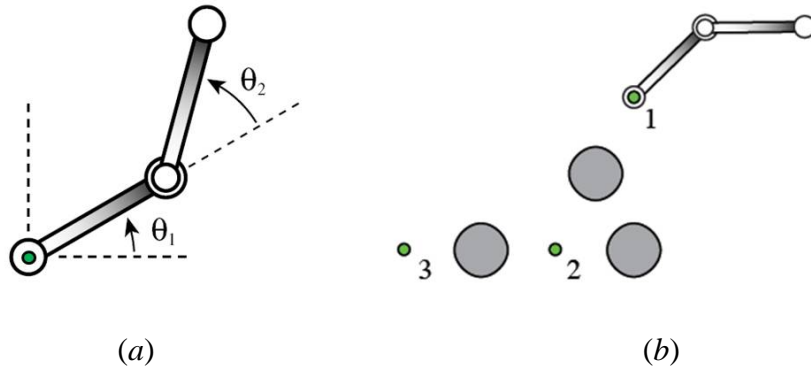
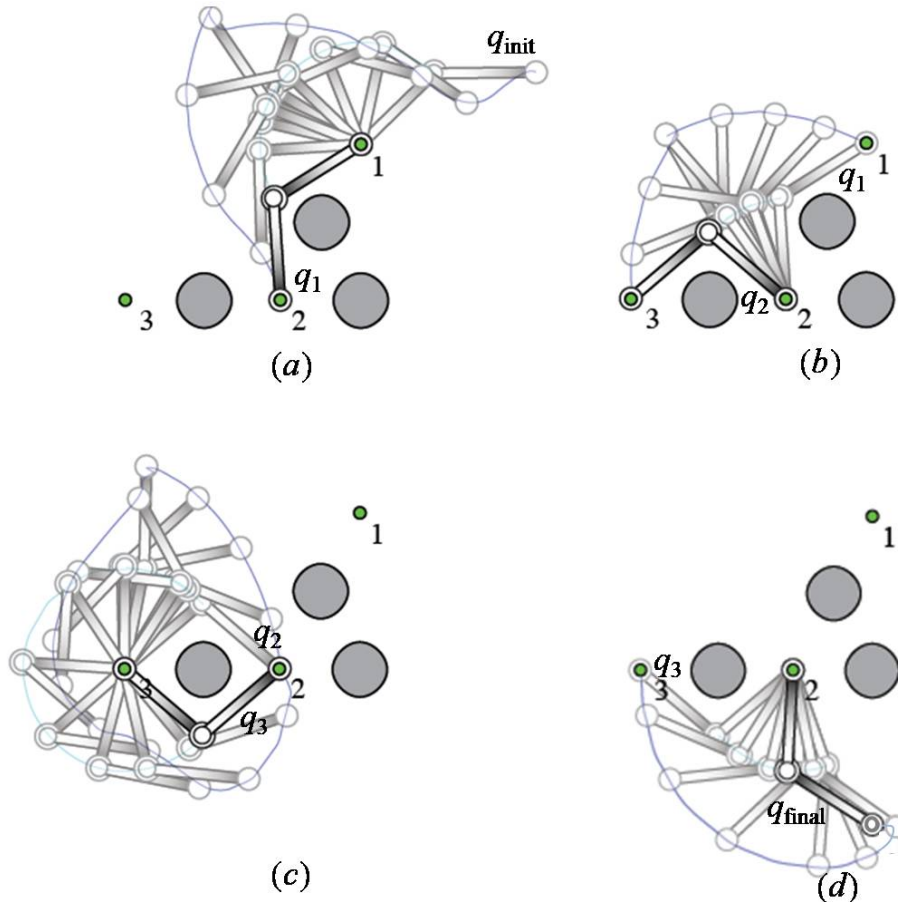
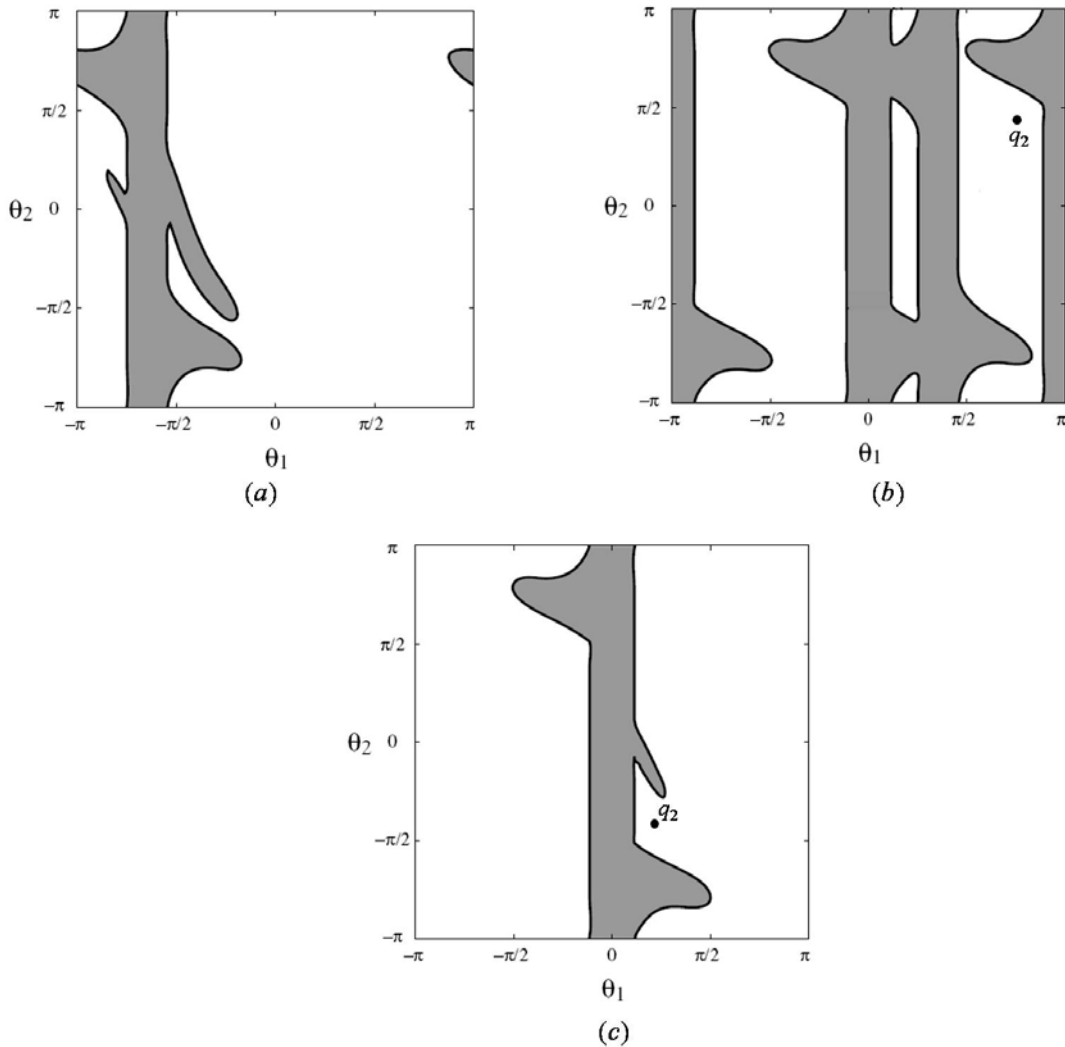

Figure 4: The robot R considered in Problem III and its workspace
Figure 5: A possible motion sequence of robot R
Figure 7: The configuration spaces of R when it is attached to peg 1 (Figure (a)), to peg 2 (b), and to peg 3 (c)
In this problem we consider the planar robot R depicted in Figure 4(a). It consists of two identical rods connected by a revolute joint (in the middle). The environment of the robot is shown in Figure 4(b). It contains three obstacles and three pegs. The obstacles are the 3 large discs shown gray. The pegs are the 3 small circles labeled 1 to 3. The pegs are not obstacles for the robot. In Figure 4(b) the robot R is attached to peg 1 at one of its extremities. One of the two rods is “above” the other, so that it can cross over the other without collision.
At any one time R must have one of its two extremities attached at a peg position around which it can rotate. For instance, in Figure 4(b), one end of R is attached at peg 1. In this case, the rod attached to peg 1 can rotate around peg 1. The other rod can simultaneously rotate around the revolute joint in the middle of R . One such motion is shown in Figure 5(a). In this motion, R moves from the configuration q_{init} shown in Figure 4(b) to a configuration q_1 where it reaches peg 2 with its other extremity. At the end of this motion, R can attach itself to peg 2 and detach from peg 1 (though one extremity remains at peg 1). Then, R can perform the motion in Figure 5(b) from configuration q_1 to configuration q_2 where it reaches peg 3 with its moving extremity. There R can attach itself to peg 3 and detach from peg 2. Figure 5(c) and (d) show two more motions of R , from q_2 to q_3 , and from q_3 to q_{final} . In each figure, the configurations along the motion are shown in shaded graphics, except the last one. The continuous thin line shows the path traced out by the moving extremity of R .
1. To move R must be attached to a single peg. The configuration of R is then defined by two angles (θ_1, θ_2) , where θ_1 is the angle made by the rod attached to the peg with the horizontal axis and θ_2 is the angle made by the second rod with the first rod (see Figure 4(a) for an illustration). Each of the two angles can vary between $-\pi$ and $+\pi$. Angles are counted positively in the counterclockwise direction and negatively in the other direction. If an angle reaches $-\pi$ (resp. $+\pi$) in one direction, it switches to $+\pi$ (resp. $-\pi$), meaning that the robot is not limited in its rotations, except possibly by the obstacles.
2. Figures 7(a), (b), and (c) show the configuration spaces of R when it is attached to pegs 1, 2, and 3, respectively. In these configuration spaces draw (approximately) the
successive paths followed by R when it performs the motion sequence shown in the 4 drawings of Figure 5. To do this, proceed as follows:
- (i) Let q_{init} be the initial configuration in Figure 5(a), also shown in Figure 4(b). Let q_1 , q_2 , and q_3 be the configurations reached by the motions shown in Figure 5(a), (b), and (c), respectively. Let q_{final} be the configuration reached by the motion shown in Figure 5(d). Mark each of these configurations by a bold point in Figure 7. Indicate the name of the configuration beside each point. [*Hints: Every configuration, except q_{init} , maps to two points in two different spaces. In addition, when the robot switches between two pegs (i.e., detach from one peg to attach at the other peg, the fixed extremity changes also, so does the definition of (θ_1, θ_2) . To help you, in Figure 7 I have shown q_2 in the two spaces where R is attached to peg 2 and to peg 3.*]
- (ii) Now, in Figure 7, connect q_{initial} to q_1 by a path in the appropriate space, q_1 to q_2 in the appropriate space, ..., and q_3 to q_{final} in the appropriate space. [*Hints: Some of the paths may cut the lines $\theta_1 = \pm\pi$ and $\theta_2 = \pm\pi$, and so may consist of multiple curve segments. Note that two out of the 4 paths are in the same space.*] Your paths need not be accurate (in fact, this would be quasi-impossible to do by hand), but they must cross the lines $\theta_1 = \pm\pi$ and $\theta_2 = \pm\pi$ whenever needed and only when needed (the positions of the crossing points do not have to be accurate either).
3. How many connected components does the collision-free region shown in Figure 7(b) contain?